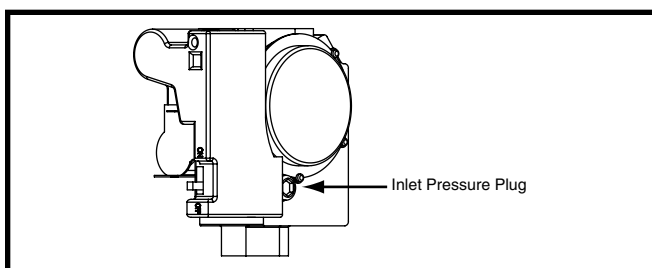

Figure 3. Inlet Pressure Plug
- b. Remove the inlet pressure plug (Figure 3, page 3) from the INLET side of the gas valve with a 3/16 inch Allen wrench.